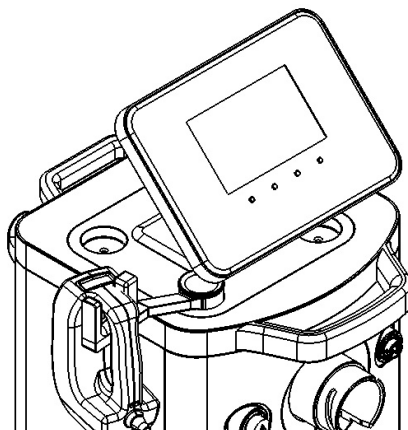

Figure 3.1 Cradle connections to the device
- Connect Cradle to the System (Fig. 3.1).